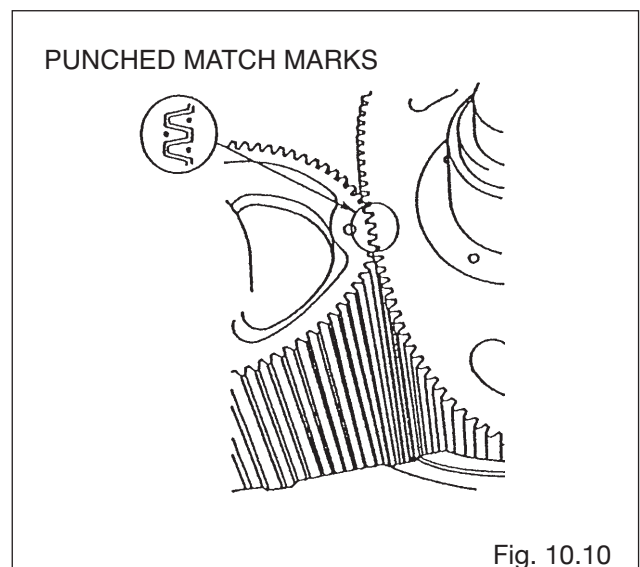

Fig. 10.10
- (2) Be sure to align match marks on the tooth end face when installing the oval rotors (see Fig. 10.10).
- (3) Apply grease to thrust rings for attachment before their installation on the rear cover.
- ➡ **NOTE:** Be sure to install thrust rings with match marks aligned. Incorrect installation might result in an inaccurate measuring chamber-to-rotor clearance (see NOTE (8) in DISASSEMBLY AND INSPECTION).
- (4) Inspect O-rings (106) of the covers for condition. We recommended their replacement every six months of service operation.
- (5) Install the front cover before bearing holders are inserted into place. Drive the front cover locating tapered pin with wooden mallet until the screw end of straight pin is 21 millimeters approx. from the exterior surface of retainer.